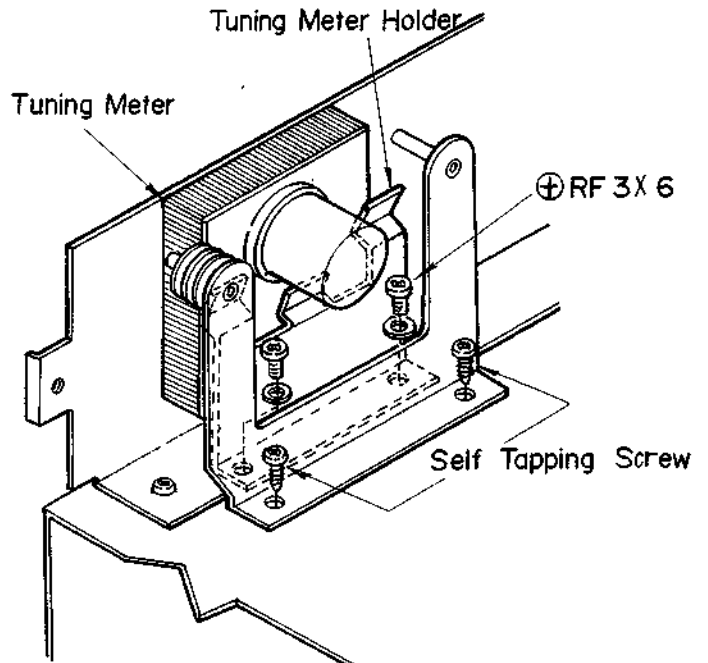

Fig. 2-11
- (b) Remove the two Phillips-head self tapping screws (+RF 3φx6) that secure the dial cord pulley bracket to the chassis as shown in Fig. 2-11.